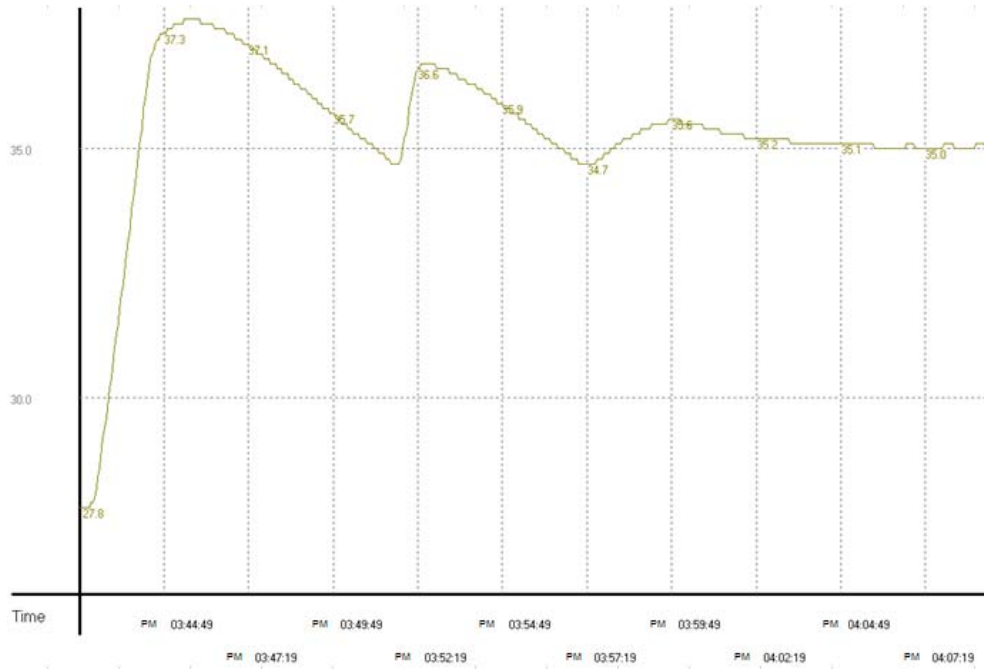

Figure 8
- ◆ When the value in D204 is K4, the best PID temperature control parameters (the K_P in D201, the K_I in D202, and the K_D in D203) are automatically calculated. The experimental result is shown in Figure 8.
When the target temperature set is 35°C, the experimental result of the initial adjustment of the parameters is like the one shown in Figure 8.